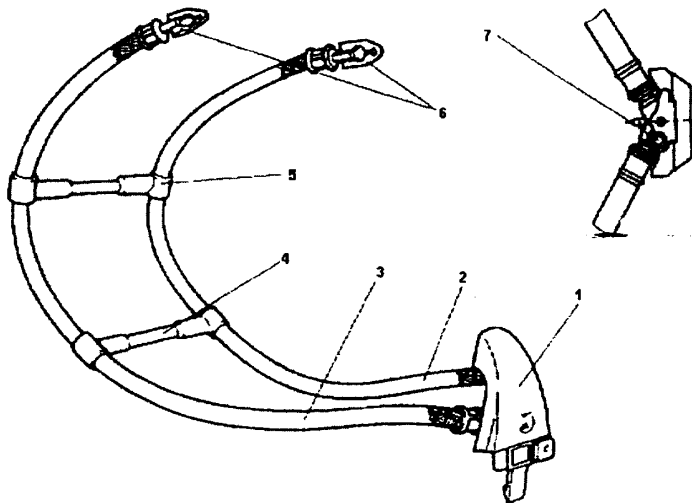

Figure 5-5 MF10-03-01 Inflatable Harness
The inflatable harness sub-assembly (see figure 5-5) consists of a mechanical and pneumatic coupling block (1), made of self extinguishing plastic, to which are fitted the silicone elastomer harness tubes (2 and 3) covered with an expanding braid. Two flexible spacers (4 and 5) attach the tubes. Each end of tubes is provided with a buckle (6), secured by a pin for the attachment to the mask face piece. A sealing ring (7), fitting into a recess in the lower section of the coupling block, seals the connection between the harness and the regulator, allowing the harness to be supplied with oxygen under pressure.